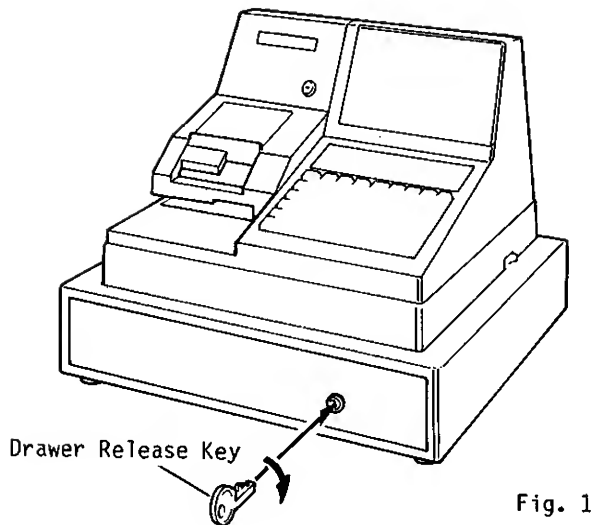

Fig. 1
- 1) Insert the Drawer Release Key into the drawer release lock and turn the key 45 degrees clockwise. The drawer will now open. (Fig. 1)